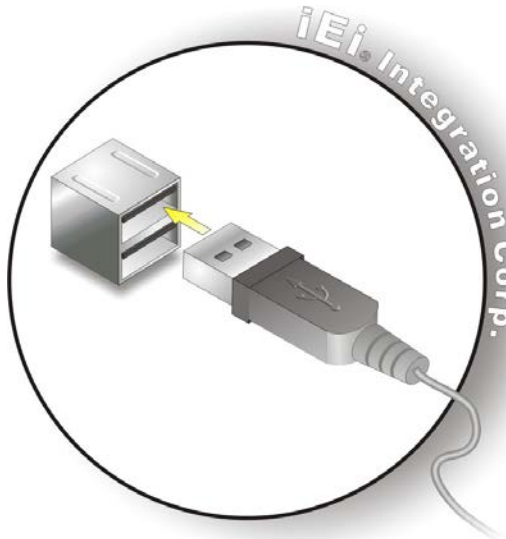

Figure 3-13: USB Device Connection
Step 2: Align the connectors. Align the USB device connector with one of the connectors. See **Figure 3-13**.